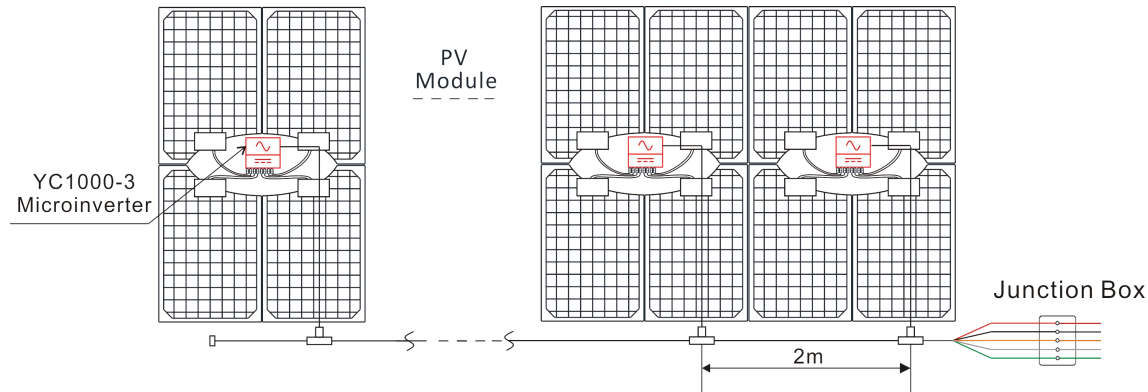

Figure 25
- 4) The best installation type for panels is landscape. There is no need to use DC extension cables which will reduce power loss on cables (See Figure 25).